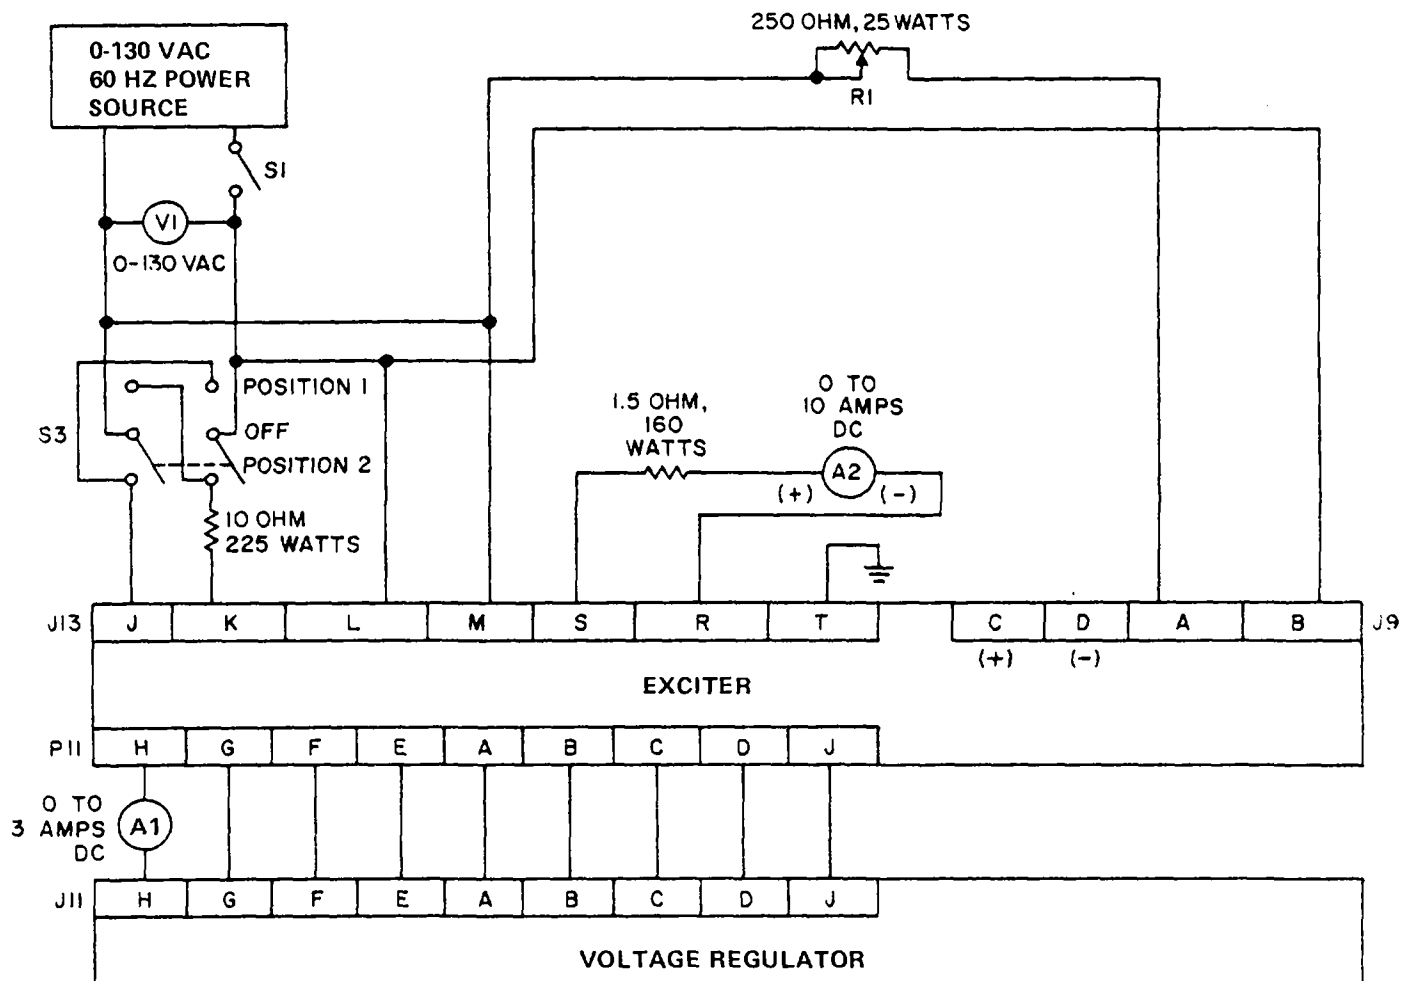

Figure 6-8. Regulator, Test Setup
(1) Connect voltage regulator A10 to test equipment shown in figure 6-8.
(2) Set all test switches to open.
(3) Perform tests specified in procedural analysis table 6-5.
(3) Deenergize and disconnect test setup of figure 6-8.